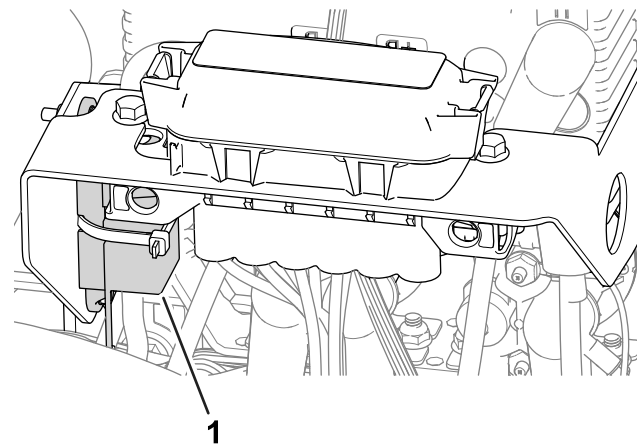

Figure 54
- The fuse for the left wheel motor (60 A) is located under the cover on the left side of the machine, near the reel-drive-circuit fuses (Figure 54).